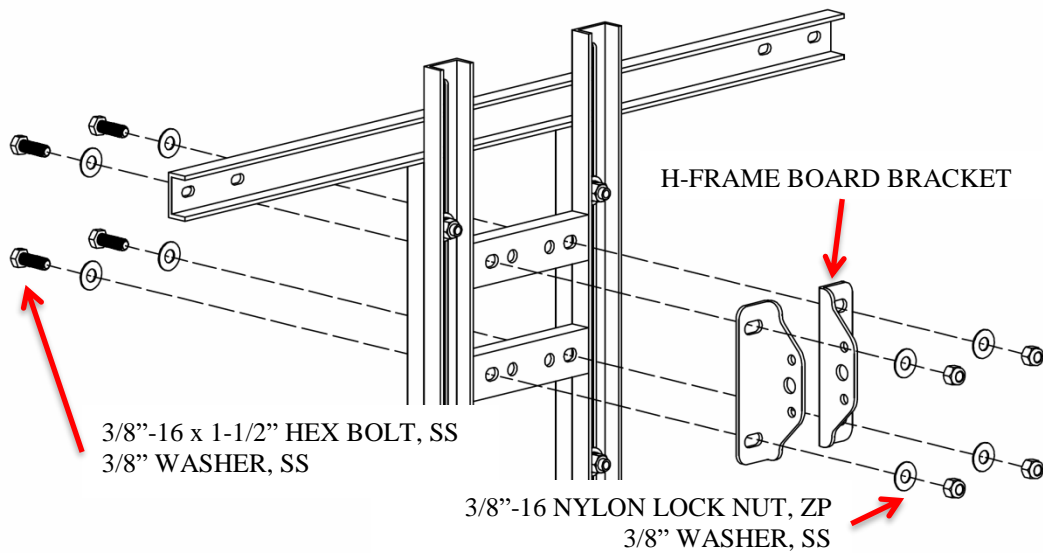

**Figure 4**
3. Attach H-Frame board bracket to the inner H-Frame slot channel holes. Use 1/2" hex bolt hardware as shown (*Figure 3*). Set the distance between brackets to be 3-3/8" as shown (*Figure 4*). Do not tighten hardware.